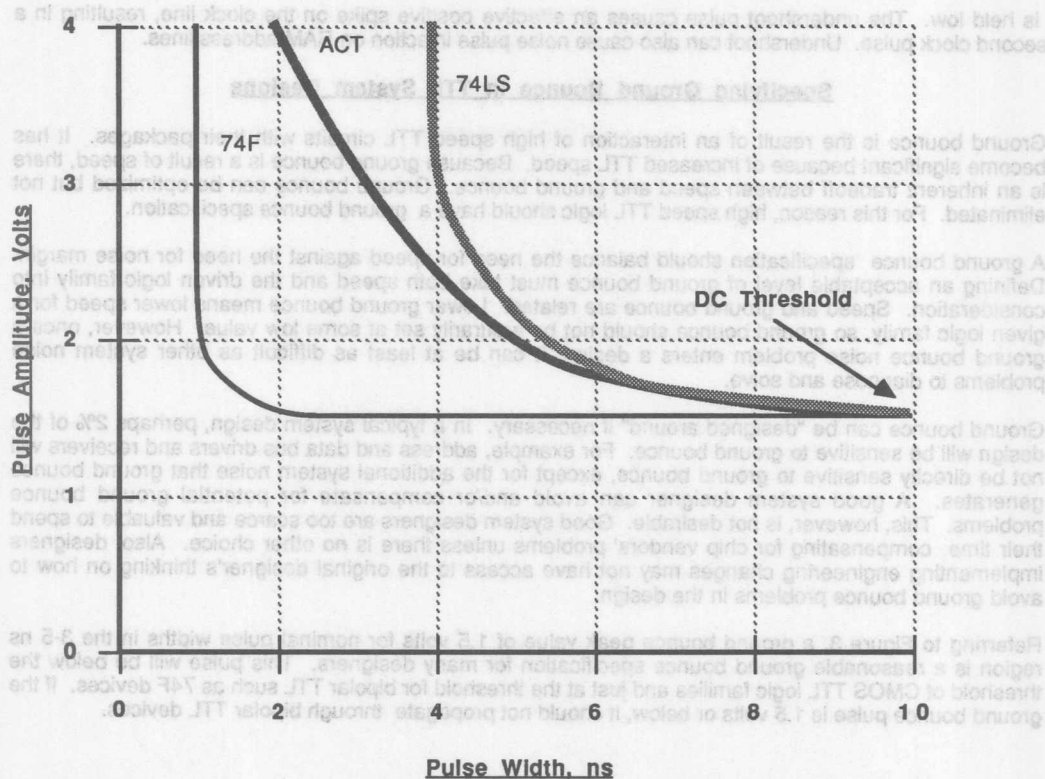

Figure 3: Dynamic Noise Margin of Various TTL Logic Families
Ground bounce noise is a problem only if it affects the circuits it drives. Whether driven circuits are affected is determined by the difference between the ground bounce pulse size and duration and the dynamic (AC) noise margin of the driven circuit. Dynamic noise margin is a function of the logic family of the driven circuit: i.e., LS, AS, F, HCT, etc. A plot of dynamic noise margin for various TTL logic families and showing typical ground bounce pulses is shown in Figure 3.